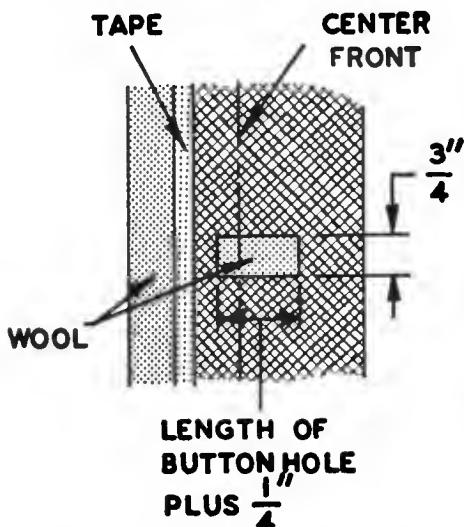

Fig. 167. Preparing the coat.
- A. Cut out a rectangle or oval from hymo under each line of the buttonhole (Fig. 167). Be careful not to remove the buttonhole guidelines.